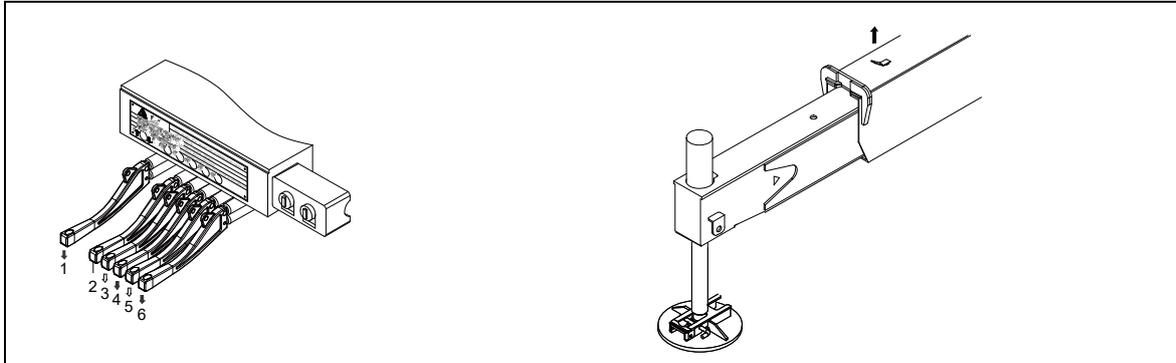

Figure 4-61 Outrigger beam removal
- (1) Stop the work (safely lower the load).
- (2) Retract the boom.
- (3) Correctly stow the boom.
- (4) Retract the 5th outrigger.
- (5) Retract all the other outriggers.
- a) Remove the pin of the outrigger beam. Refer to Figure 4-61.